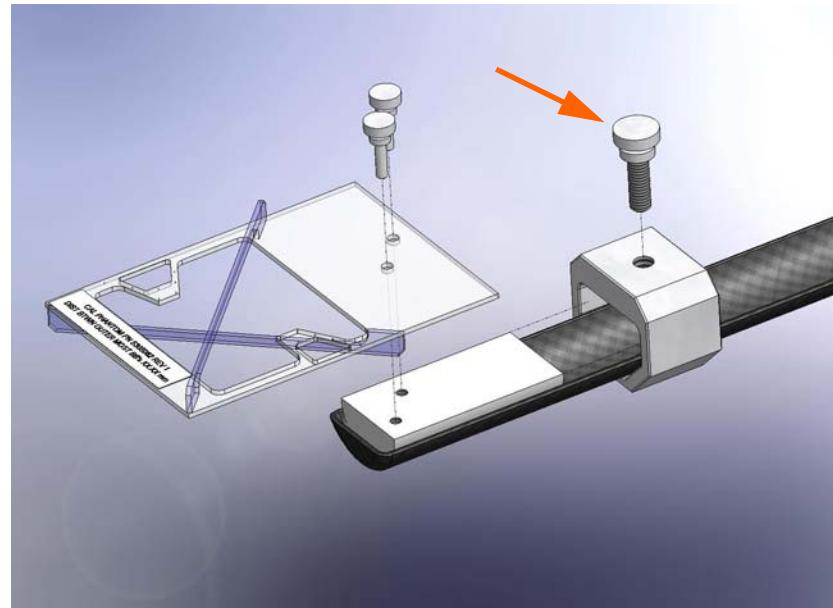
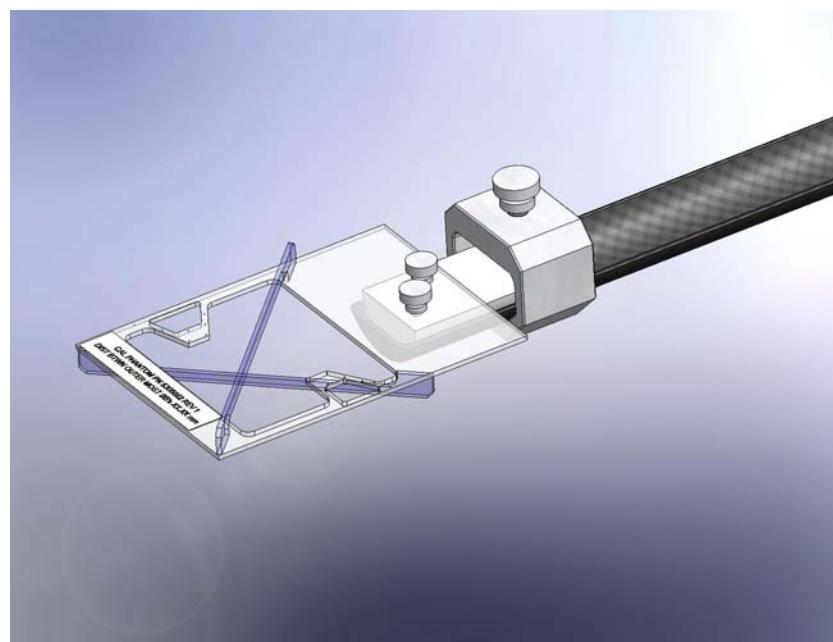

Figure 7-85
Figure 7-86
- 3.) Place the calibration phantom on the table. Fasten the thumbscrew of the phantom (arrow in exploded view in Figure 7-85) tightly so that the phantom is stable. See also Figure 7-86.